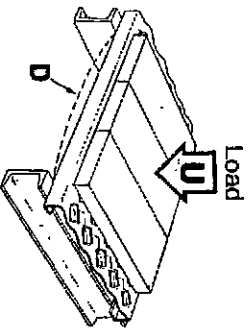

Fig. 1
Design load assumptions differ according to load type: (1) uniform, (2) concentrated (see Figs. 1, 2 and 3 below for explanation of load application). *Concentrated load* capacities generally vary with span, siderail height and material thickness, irrespective of grating width, although large differences in grating width cause concentrated loads to be distributed somewhat differently into siderails.